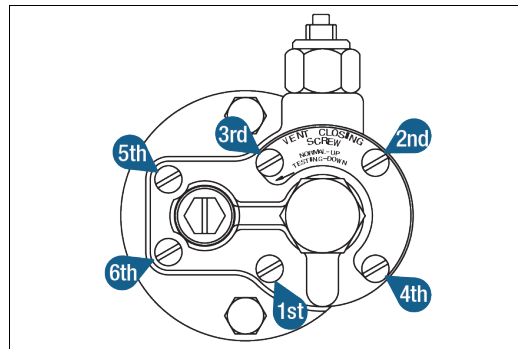

Figure 8. Functional Element Screw Tightening Sequence
14. Return the Diaphragm to the normal position on the top of the Functional Element. Install the top of the Functional Element, Poppet, and Diaphragm assembly onto the body of the Functional Element using the 6 – 1/4-28 Fillister Head Screws and torque these fasteners, sequentially as shown in Figure 8 to 40-65 in-lbs.